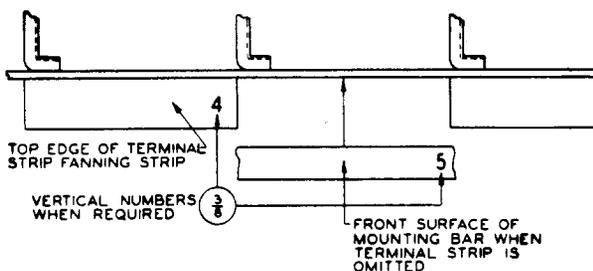

Fig. 8 — Vertical Numbers on Top Edge of Horizontal Terminal Strips — MDF, Double-sided CDF, and TDF
2.07 Vertical Numbers: The number of each vertical (except the one at the extreme left of the frame) shall be stamped at the left of the respective verticals, on the top of the terminal strip fanning strips on the shelves prescribed in (a) or (b) below. Where terminal strips are omitted, stamp on the face of the stiffening bar. If stiffening bars are not provided, the vertical numbers may be omitted. (See Fig. 8.)